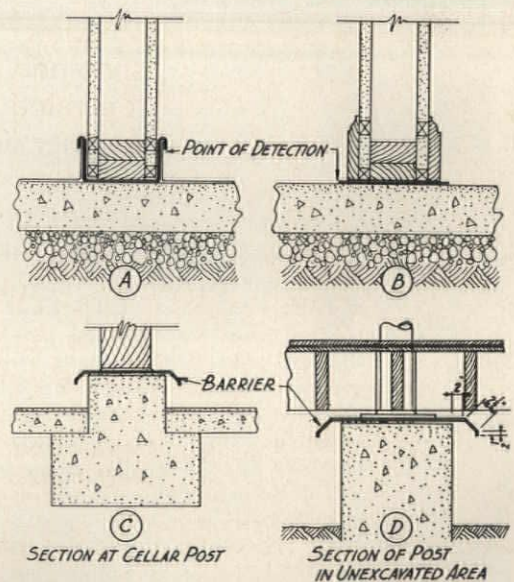

FIGURE 10
**PARTITIONS** Figure 10 shows shield details for cellar partitions and other miscellaneous areas. A and B illustrate methods of deflector shield installations between a cellar floor and a cellar partition. Similar applications can be made between a partition and a cellar side wall. Inspection for shelter tubes should be made regularly.